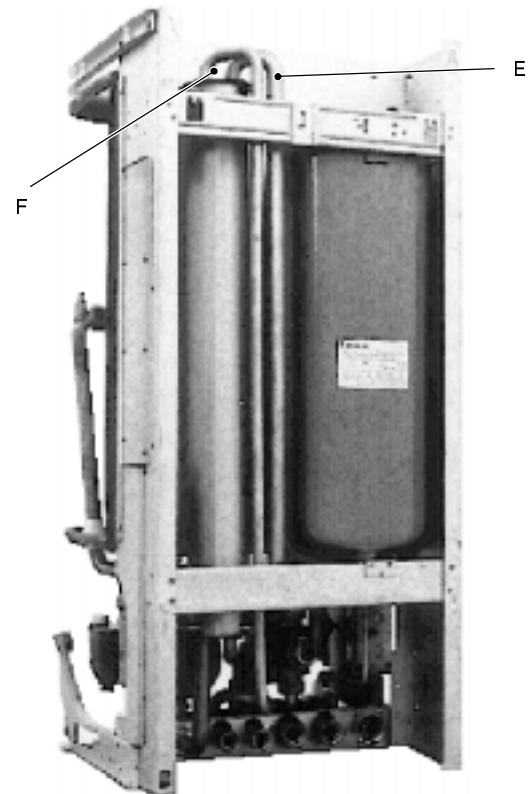
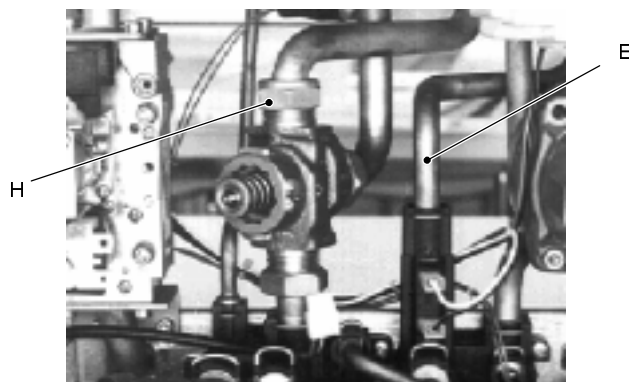

fig. 17
fig. 19
- 5 Remove the forks that hold the pipes E and F (fig. 17) to the top plug of the d.h.w. heat exchanger and disconnect the pipes (it is not necessary to remove them from the boiler).
- 4 Fit the pipes E and F (fig. 17) to the top plug of the d.h.w heat exchanger, to the d.h.w flow switch (fig. 19) and to the outlet connection of the boiler.
- 6 Screw up the top pipe fitting H (fig. 19) of the 3-way valve.